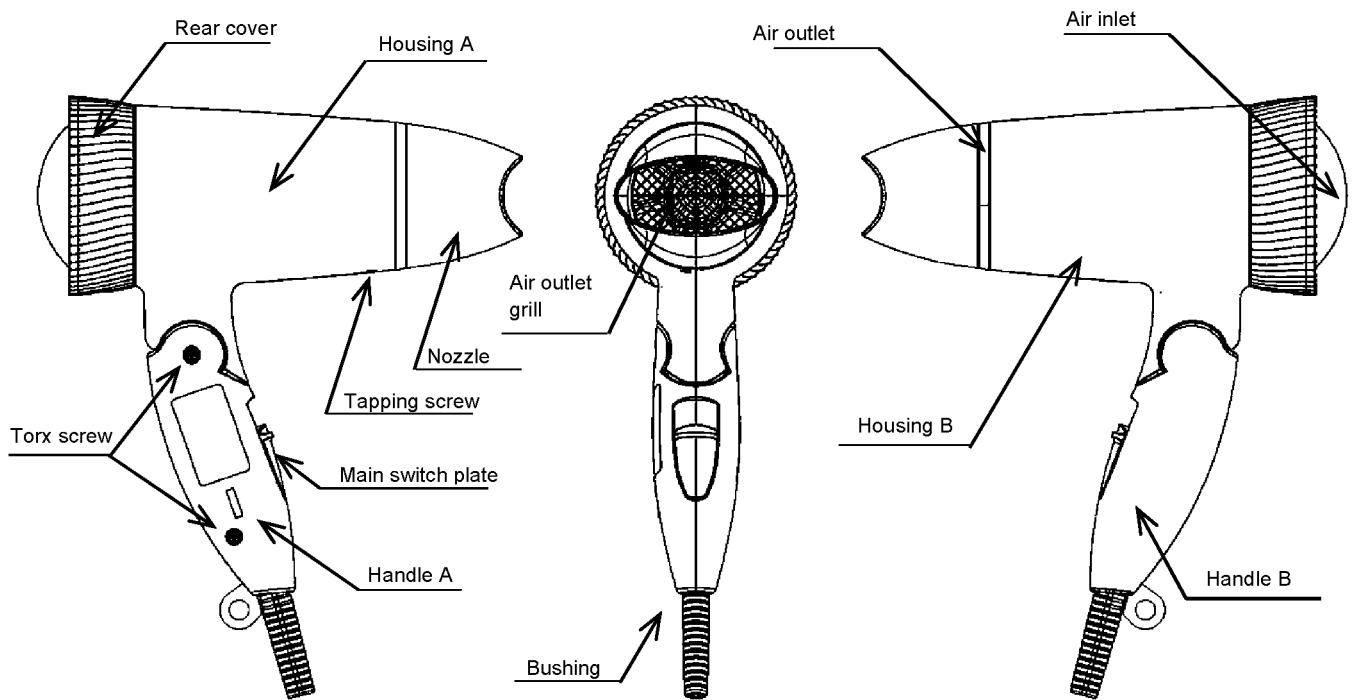

Figure 13
4. Assembly handle A , screw and nozzle as shown figure 13.